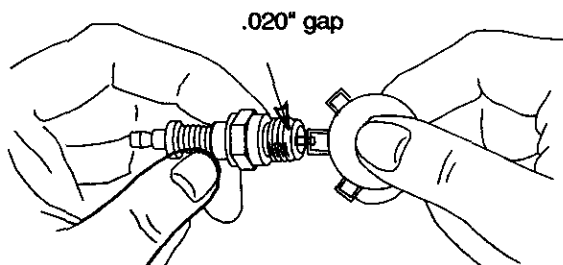

Figure 14
- Replace the spark plug if electrodes are pitted, burned, or the porcelain is cracked. See Figure 14 .
- Clean the spark plug and reset the gap to 0.020" at least once a season or every 100 hours of operation. See Figure 14 . Replace if necessary. Refer to parts list section for part number.